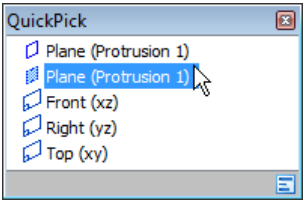

Figure 1-14 The QuickPick dialog box
- 1. Bring the cursor near the element or the component that you need to select. Now, pause the cursor, and when three dots appear close to it, right-click on the screen. On doing so, the **QuickPick** dialog box will appear with an entry of each possible selection, as shown in Figure 1-14.